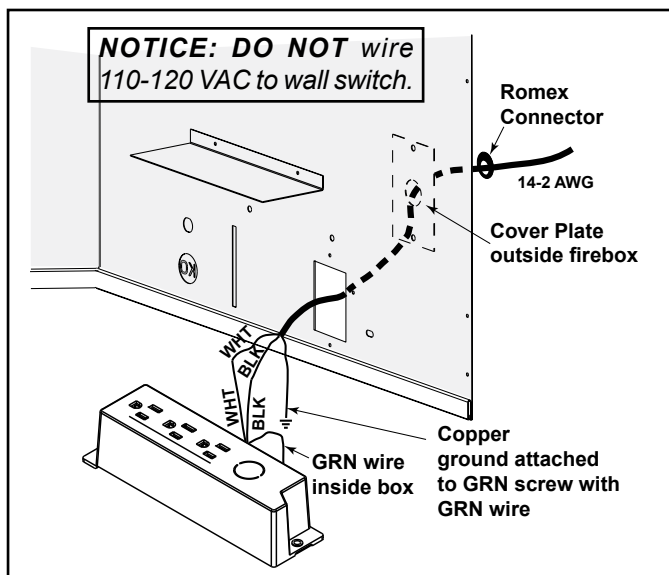

Figure 8.4 Junction Box Detail (Generic Model Shown)
- Pull the electrical wires from outside the appliance through the opening into the valve compartment and secure wires with a Romex connector. See Figure 8.4.